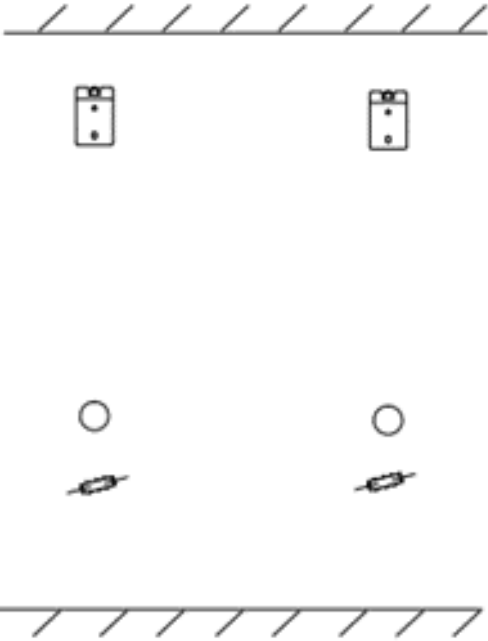

Figure 8: Fitting wall plugs into the lower drill holes
11. Remove the radiator, drill into the mounting marks and insert the wall plugs into the lower drill holes (**Figure 8**).